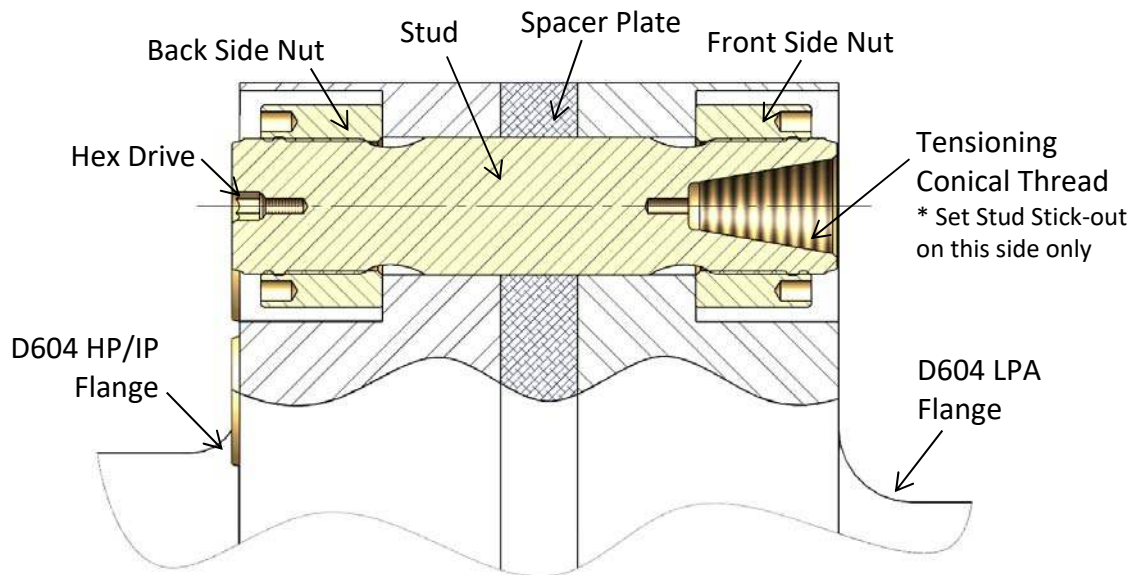

Figure 6A – Cross-section View of D604 HP/IP to LPA
4. Slide the stud, and nut into the flange as shown in Figures 6A and 6B.